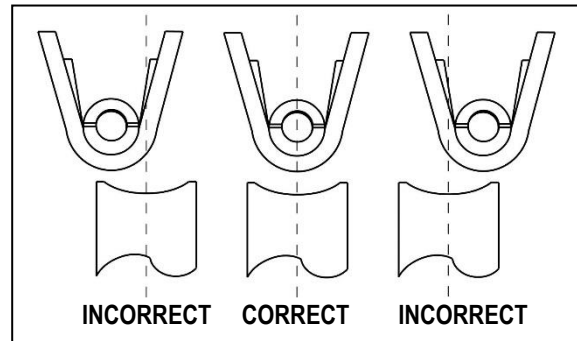

Figure 4.5.3
6. For mechanical feed applicators with pre-feed timing, hand-cycle the press so the feed pawl retracts and feeds the next terminal to a centered position over the anvils. See Figure 4.5.3.
9. After feeding the terminal, the terminal must be centered over the anvils. See Figure 4.5.3. If the terminal is not centered over the anvils, use the terminal feed adjustment procedure (Section 4.6) to correct the position.